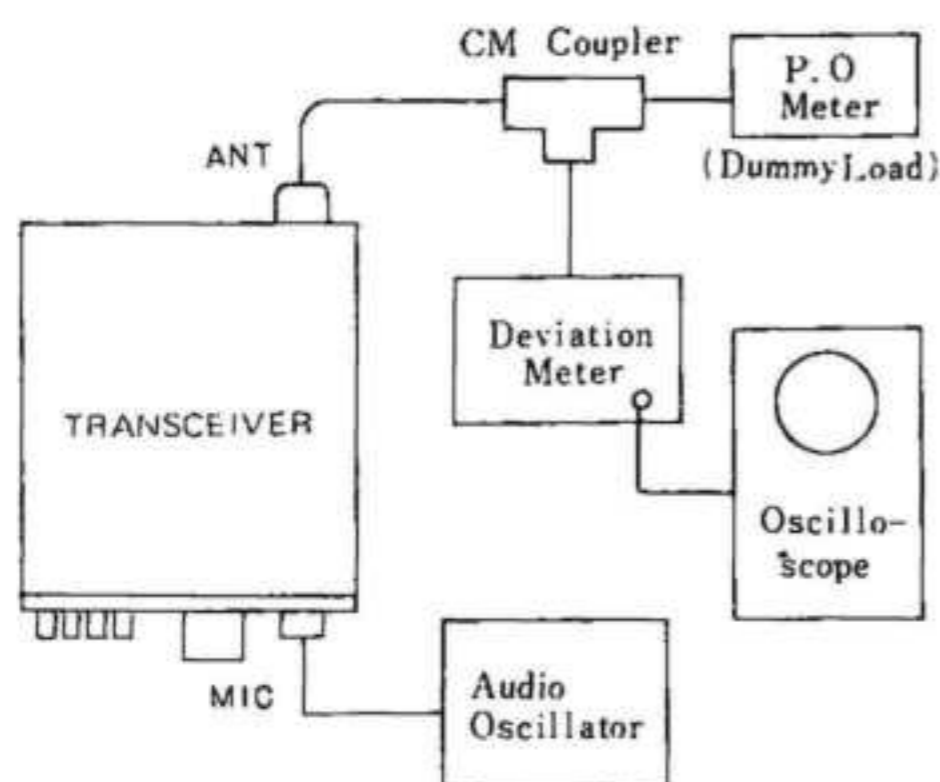

Figure 4
- a) Refer to figure 4, and set up the transceiver and test equipment as shown.